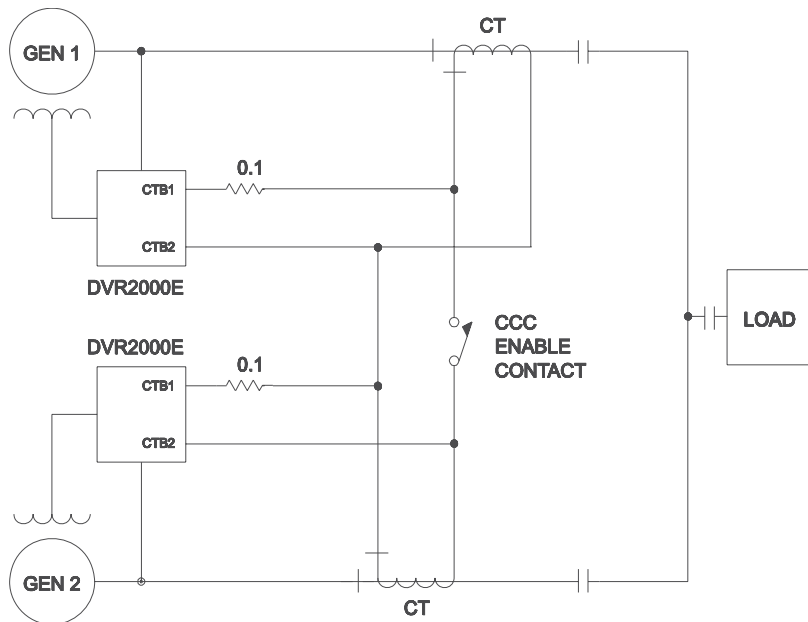

Figure 4-9. Cross-Current (Reactive Differential) Connections for Two Generators
Figure 4-9 illustrates the connection of two DVR®2000E devices used in a Cross-Current (Reactive Differential) application. Note that the .1 ohm resistor shown may have to vary. When operating in parallel reactive differential mode (cross current), attention must be paid to the use of the burden resistor shown in Figure 4-9. The burden resistor should have a value approximately 10 times the cross current loop resistance for proper differential operation. The value of 0.1 ohm is a suggested value. The volt-ampere (VA) capacity of the paralleling current transformers should be considered after sizing the burden resistor.